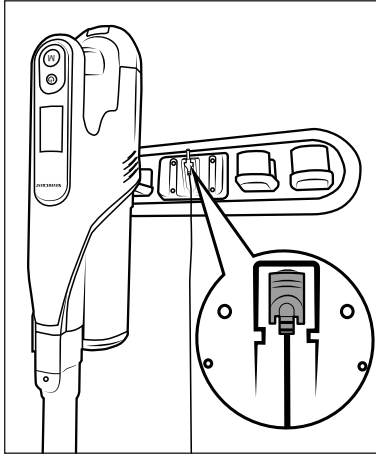

Fig. 6
- ◆ Place the vacuum cleaner in the wall bracket **18** from above so that the barrel plug **11** slips into the charging socket **3** on the bottom of the appliance. The battery indicator **23** starts flashing and the charging process starts (see Fig. 6 and 7).